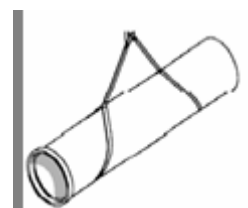

Fig. 21
**For long pipes**, use two slings in choke hitch, double wrapping if slings are likely to slide together. Provided that no angle exceeds  $90^\circ$  at Included angle, then use the SWL for one sling for the SWL of this arrangement. (see Fig. 21)